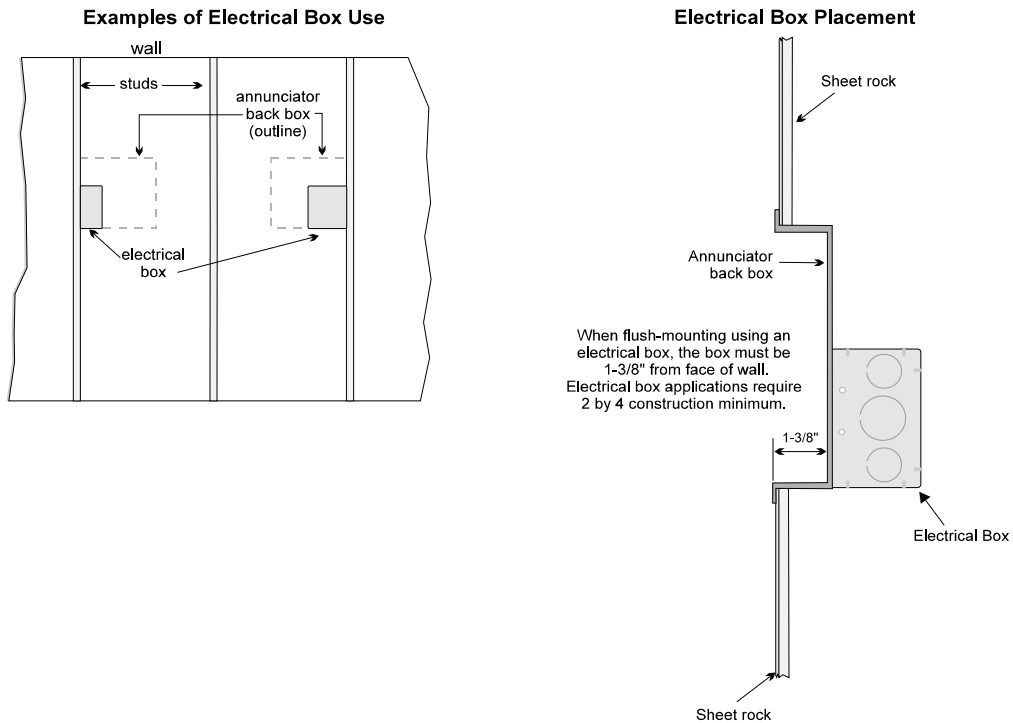

Figure 4.13 Placement of Electrical Box for Flush Mounting
1. Cut a hole in the sheet rock to the following dimensions: 8- $\frac{1}{4}$ " W x 6- $\frac{5}{8}$ " H. If an electrical box is used, the box must be 1- $\frac{3}{8}$ " back from the face of the wall to accommodate the annunciator (see Figure 4.13).